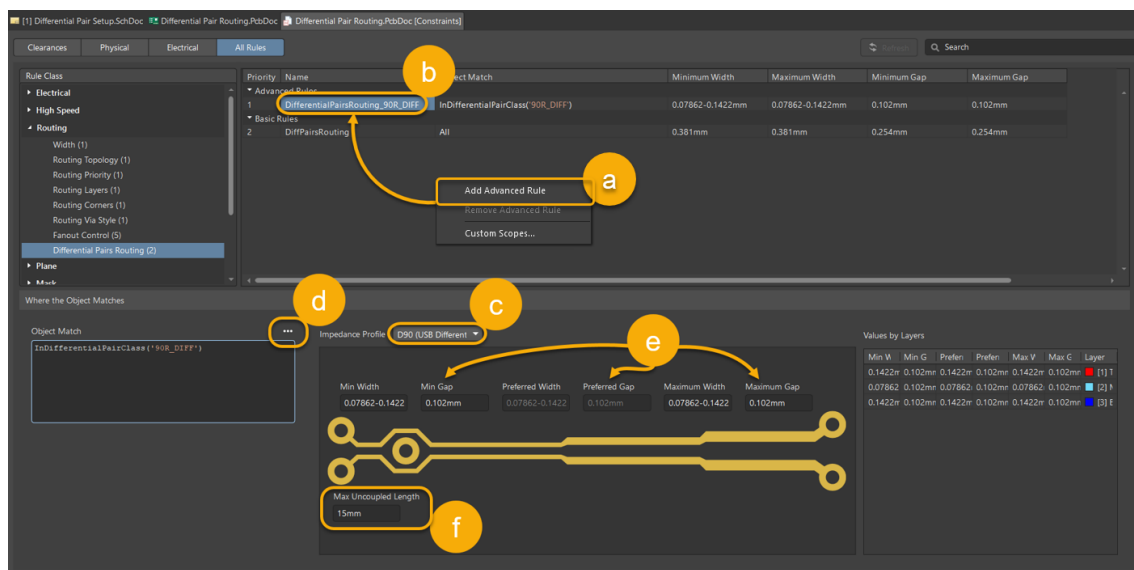

Figure 18. Adding a Diff Pair Width Rule
47. Next, configure a new routing rule for the 90R\_DIFF Class, Figure 18: